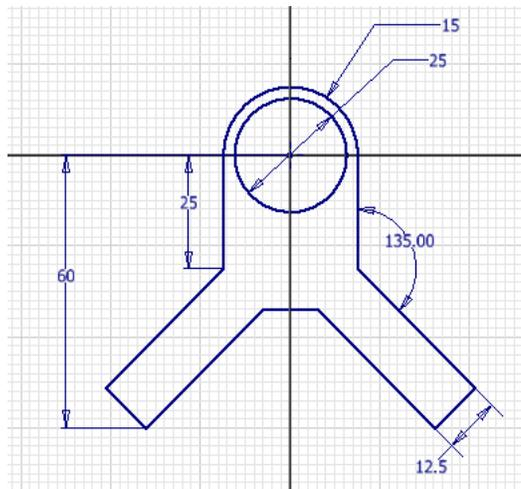

Figure 3-66 The final dimensioned sketch for Tutorial 4
1. Choose **Dimension** from the **Constrain** panel of the **Sketch** tab and select the circle. Place the diameter dimension below the arc dimension. Enter **25** in the **Edit Dimension** toolbar and then press ENTER. This completes the sketch for Tutorial 4. The final dimensioned sketch is shown in Figure 3-66.